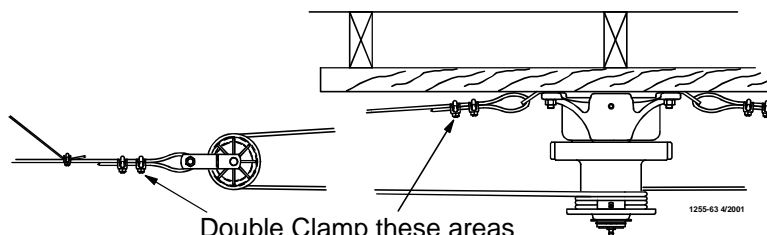

Figure 9. Double back arrangement for feed lines over 350' [107 m]
- Extend the 3/16" [5 mm] Main Winch Cable the full length of the feeder line. Attach the cable temporarily to the ceiling with nails, staples, or some type of fasteners. **Figure 9** shows a double back arrangement for feed lines over 350' [107 m].